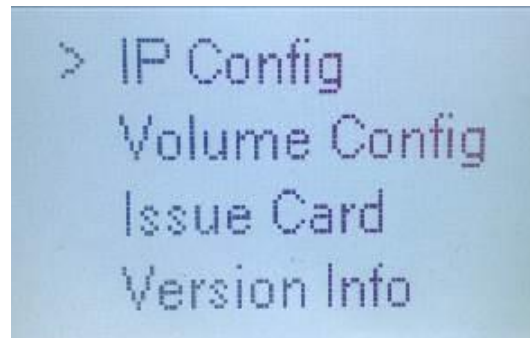

Figure 4-1
- a) On the VTO menu, input "+project password+#", you can go to the following interface. See Figure 4-1. The default project password is "888888".